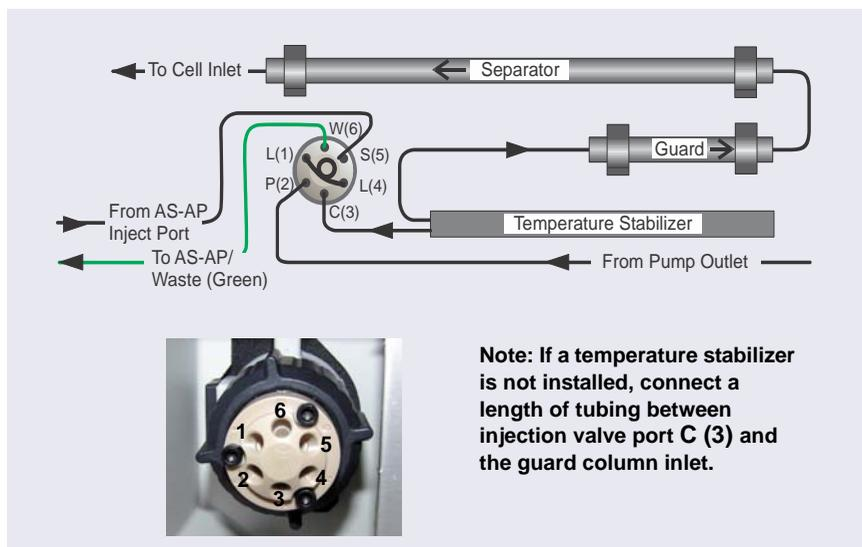

Figure 4-34. TC Plumbing Schematic
3. Connect tubing from system components (Dionex AS-AP inject port, temperature stabilizer, and pump) as shown in Figure 4-34.